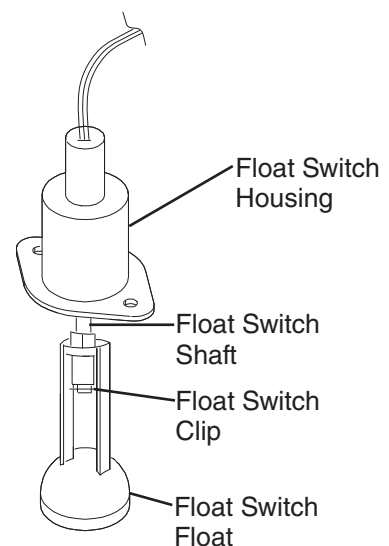

Fig. 8
- 5) Remove the retainer clip from FS shaft, then remove the float. Be careful not to damage or lose the retaining clip when removing it. See Fig. 8.